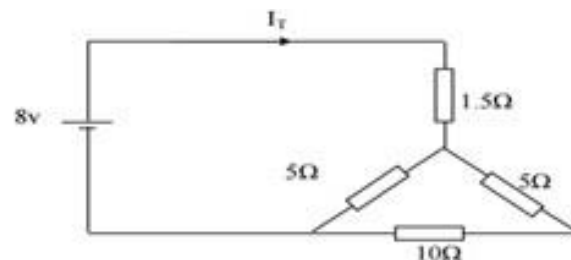

Fig. 6
- For the circuit shown in Figure 6, find R_T , V_2 .
5. Find I_T for the circuit below in Fig. 6.